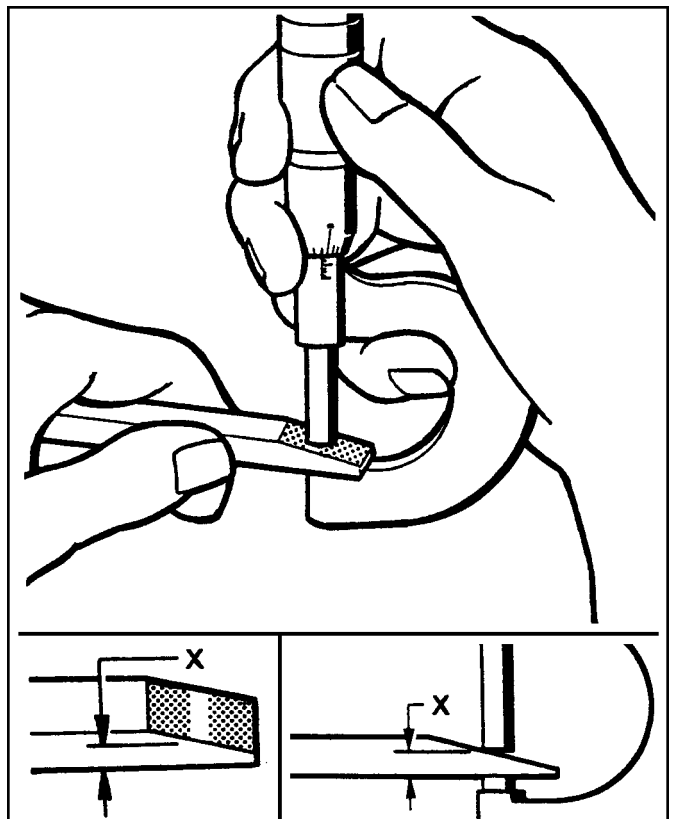

Figure 9.15 - Measuring Piston Stroke
- The solid shoulder will scrape the bluing off the Gap Tool as shown in Figure 9.15. To get an accurate measurement, slightly push the Gap Tool side to side when it is firmly inserted. (This will remove the bluing in a straight line rather than an arc.)
- Measure distance "X" with a micrometer as shown in Figure 9.15. Compare the measurement with the tabulated limits shown in the Piston Stroke Table on the next page.